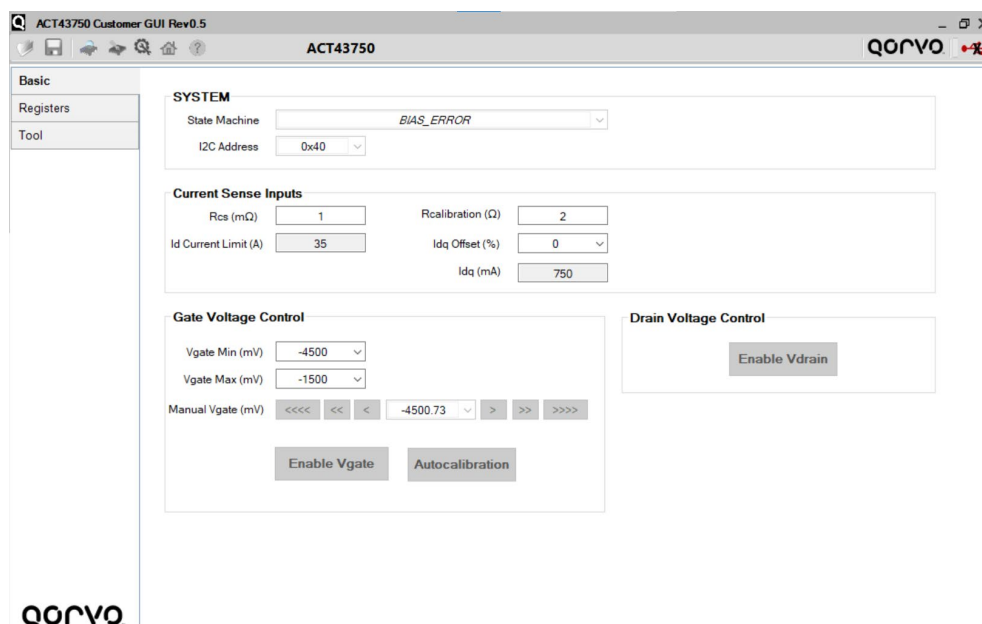

Figure 4. ACT43750EVK GUI interface
1. Select Basic for normal operation, see Figure 4.